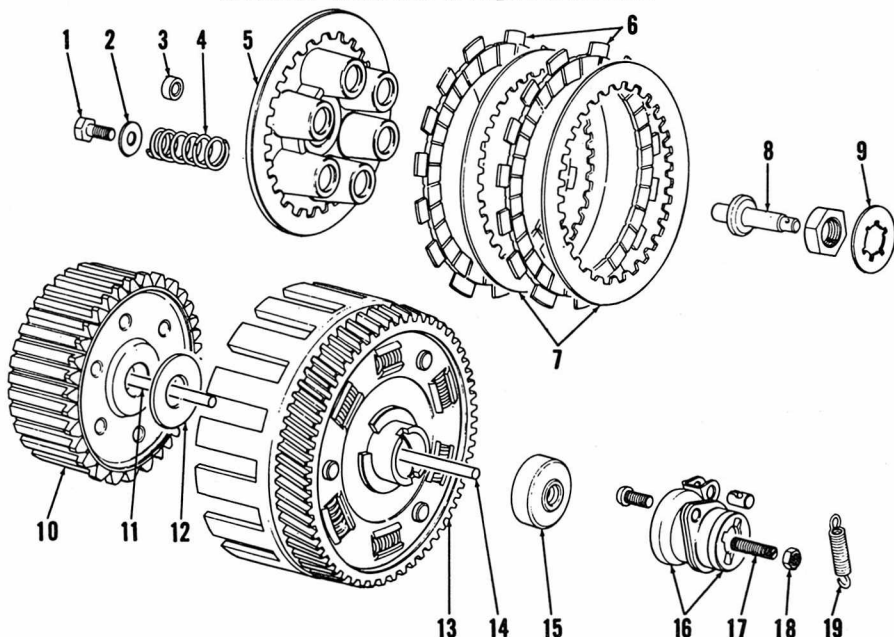

Fig. S12-10—Exploded view of TS 250 R clutch assembly.
**CLUTCH CONTROLS.** Clutch may be adjusted after removing adjustment cover on left engine case. Loosen lock nut (18—Fig. S12-10) and turn adjusting screw (17) until it just contacts push rod (14). Back adjusting screw out  $\frac{1}{2}$  turn and tighten lock nut. Turn adjusters on clutch control cable to obtain  $\frac{1}{8}$  inch free play at pivot of clutch lever on handle grip.
**CLUTCH.** The wet type multi disc unit is located on the transmission drive shaft at the right side of engine. Standard thickness of friction discs (6—Fig. S12-10) is 0.138 inch. Discs should be renewed if less than 0.126 inch thick. Steel plates (7) should be renewed if warped more than 0.016 inch. Standard free length of clutch springs (4) is 1.51 inch and springs should be renewed if less than 1.46 inches long.